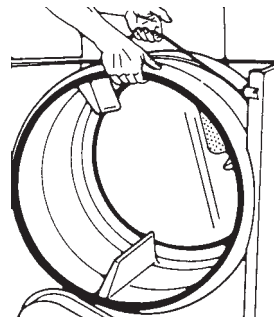

Fig. 4-38
3. Remove the drum and belt from the cabinet. (Fig. 4-38)